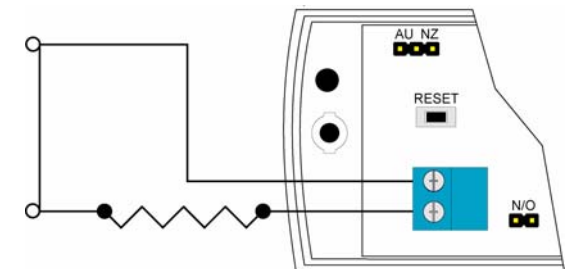

Figure 4 Wired for N/C operation
2. Use 22 AWG wire to wire the 2.2K ohm resistor in series with the N/C contact per Figure 4. The distance from the external contact to the EN1215EOL must not exceed 10 feet (3 meters).